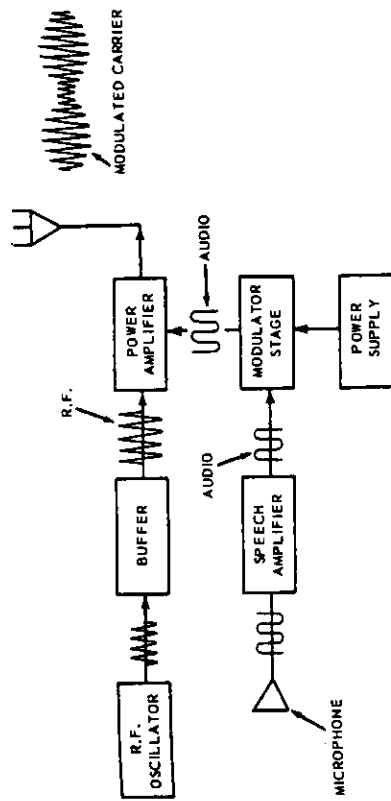

Figure 10-7 Block Diagram of a Modulated Transmission
In Figure 10-7 the output of a speech amplifier is fed into a modulated stage, causing the output of the power amplifier to vary in accordance with the voice signal. The radio-frequency (RF) and audio-frequency (AF) voltages are combined in the power amplifier to form a wave that contains characteristics of both. Notice in Figure 10-7 that the envelope of the modulated wave has the same shape as the modulating wave. The part of the resultant wave that comes from the transmitter section is the RF component; the part from the speech amplifier is the AF component.